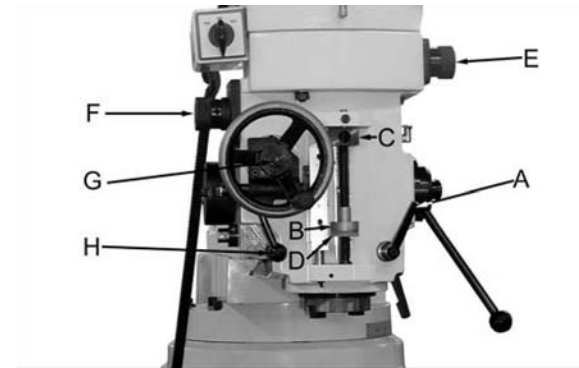

Figure 8
2. Tighten the quill lock (A, Fig. 8).
3. Screw the micro nut (B, Fig. 8) against the quill stop (C, Fig. 8), and tighten the micro jam nut (D, Fig. 8).
1. Ensure quill lock (A, Fig. 8) is off by rotating counter-clockwise.
2. Set micrometer dial (B/D, Fig. 8) to desired depth.
3. Engage auto quill feed knob (E, Fig. 8) by turning so pointer indicates towards the rear of the machine.
4. Select feed direction by pulling or pushing the knob (G, Fig. 8) for up/down feed, neutral is in the middle.
5. Select feed rate from feed selector knob (F, Fig. 8) 0.0015", 0.003", and 0.006" per spindle revolution. It is easier to change feed rate while the spindle is turning.
6. Engage feed trip lever (H, Fig. 8) by pulling away from head assembly.
4. Loosen the quill lock, and engage the power feed knob (E, Fig. 8).
5. Choose the downfeed rate (F, Fig. 8).
6. Engage the feed reversing knob (G, Fig. 8).
7. Engage the feed trip lever (H, Fig. 8).